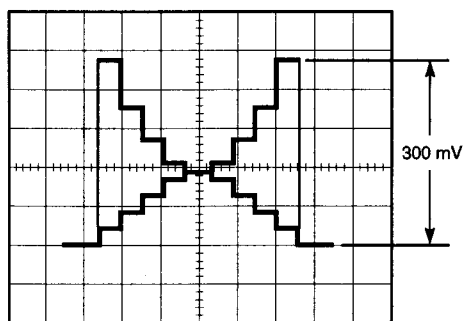

Fig. 4-2
- Set the Lens Iris so that the peak level of the gray scale from the blanking level becomes 300 mV as shown in Fig. 4-2.